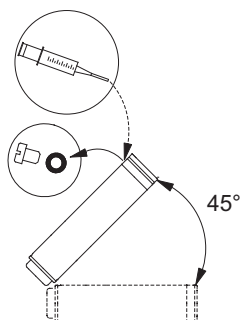

Fig. 5 Motor position during filling - MS 6000
- If the motor is delivered from stock, the liquid level must be checked before the motor is installed. See fig. 5.
- In the case of service, the liquid level must be checked. See fig. 5.
1. Position the submersible motor as shown in fig. 5. The filling screw must be at the highest point of the motor.
3. Inject liquid into the motor with the filling syringe (fig. 5) until the liquid runs back out of the filling hole.